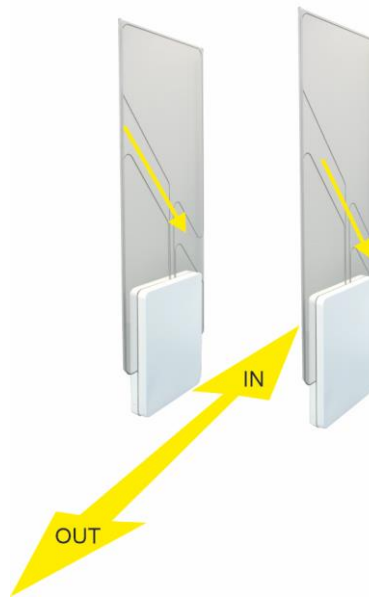

Figure 13: Recommended direction of the antenna
- The alignment of the antenna is done with the help of the adjusting screws (Fig. 13)